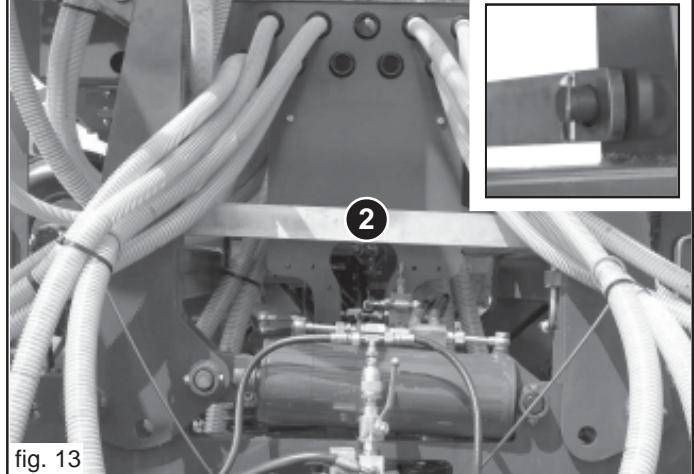
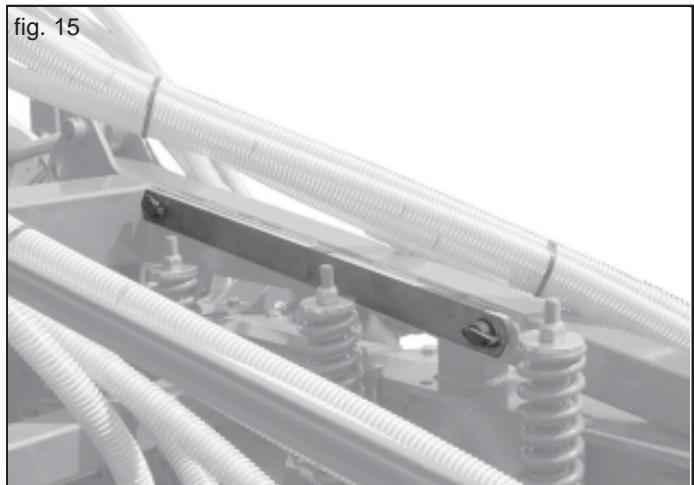

fig. 13
fig. 15
- Remove the safety device of the side toolbars (2, Fig. 13), and place it along the side toolbar as shown in Figure 15;
- Lock the side toolbars with the locking bar (2, Fig. 13) locking it with the safety devices provided (spring pins and split pins).